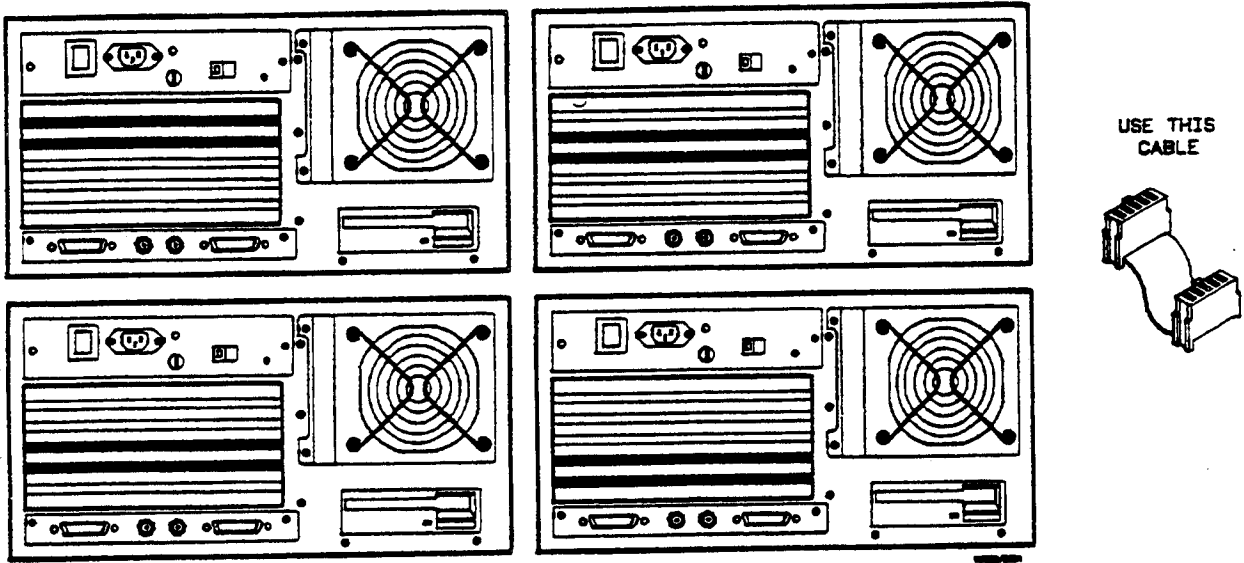

Figure 2-3. One Master and One Expansion Card
- d. If the module consists of one master card, this card can be installed in any available slot. If the module consists of multiple cards, use figure 2-1 and figures 2-3 through 2-6 to plan your card configuration.
- f. Use figure 2-11 and figures 2-3 through 2-6 to plan the new configuration and to select the proper intercard connecting cable.